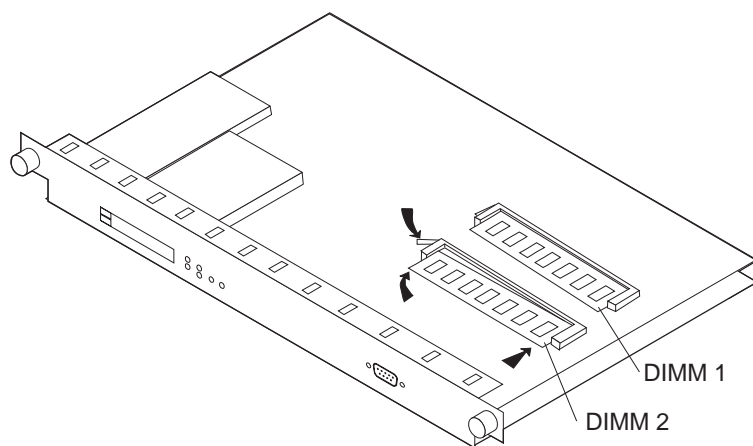

Figure 3. DIMM Slots on System Card
- ___ 3. On the **System card**, locate the DIMM sockets (Refer to Figure 3).